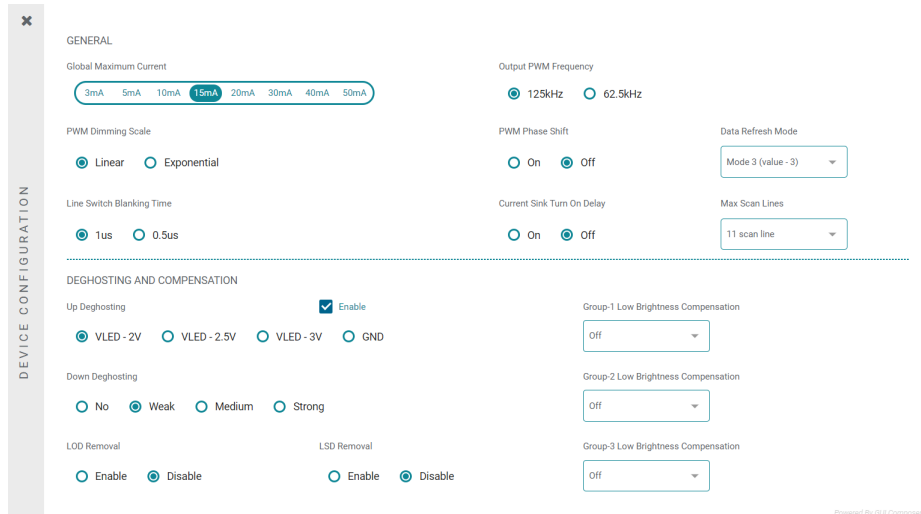

Figure 3-6. Device Configuration
To improve performance under different applications, first configure some key settings. Select the *DEVICE CONFIGURATION* button to show the detail setting slide, which is illustrated in Figure 3-6. Maximum current (MC) is set here. If a high maximum current is set, an external VLED supply is recommended. The *Data Refresh Mode* settings determine whether a SYNC signal is required to synchronize the PWM change for every LED dot. The *Max Scan Lines* controls select how many scan lines are active. For more information on the functions for other settings, see the LP5860 11 × 18 LED Matrix Driver with 8-bit Analog and 8-, 16-bit PWM Dimming Data Sheet.